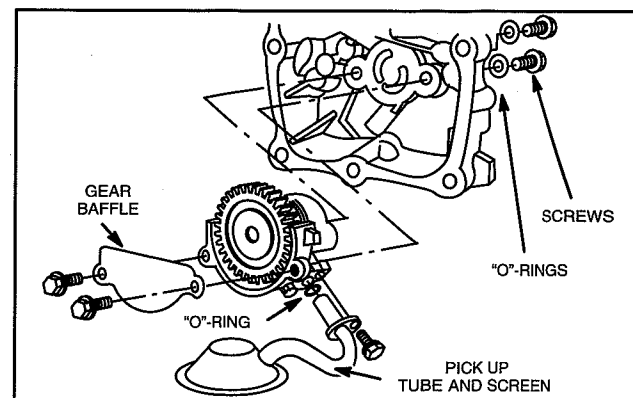

Fig. 27 – Install Oil Pump
2. Assemble oil pump to crankcase cover with new "O"-rings, Fig. 27.